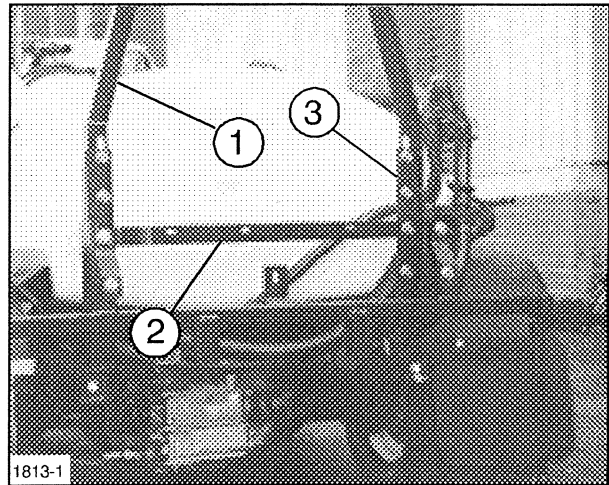

FIG. 2
**NOTE:** If installing the "Enclosed Boom" option in place of the Standard Boom, DO NOT install the two (2) Boom Hold-In Assemblies in Step 3 or the two (2) Boom Mounting Brackets in Step 4.
3. Install the two (2) Boom Hold-In Assemblies to the top of the Boom Mount uprights as shown in FIG. 2, using four (4) 1/2" x 1-1/4" cap screws, and flange nuts.
4. Attach the two (2) "U"-shaped Boom Mounting Brackets and the Valve Mounting Bar to the third and fourth holes from the top of the Boom Mount uprights with four (4) 1/2" x 1-1/4" cap screws, and flange nuts. Torque to 75 ft-lbs (102 N-m).